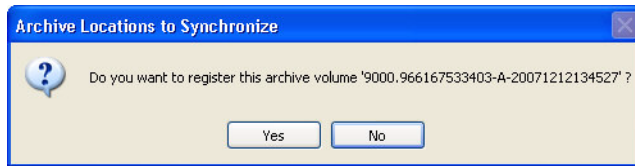

Figure 10-17 Register Archive Volume Dialog
- A dialog will be displayed asking if you want to register (add) the archive volume (Figure 10-17). Select **Yes** to add the archive volume.